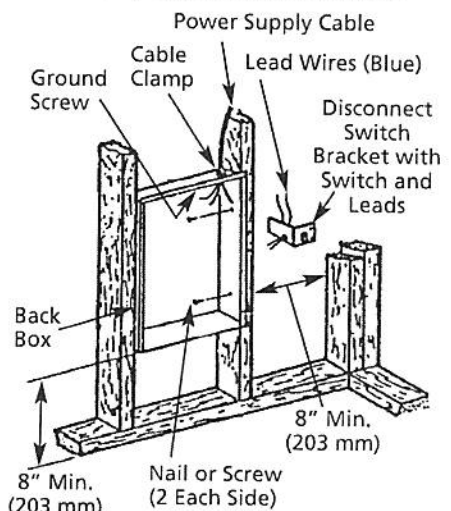

Figure 2 – Locating Recessed Back Box in New Construction
1. Mounting Back Box (see Figure 2).
- c. Secure the back box in position with wood screws or nails as shown in Figure 2.
2. Power Supply Wiring (see Figure 2).